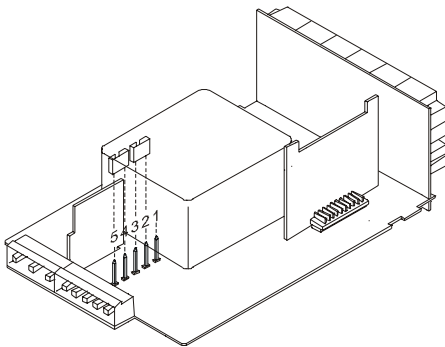

Fig. 9.2. Supply voltage 230 V or 48 V AC
**115/230 V AC:** The instruments with 115/230 V AC power, are shipped from the factory for 230 V AC (USA market 115 V AC), see figure 9.2. To change supply voltage to 115 V AC, set jumpers as indicated in figure 9.3 (see table 1). The wiring label should be modified to match new setups.
**24/48 V AC:** The instruments with 24/48 V AC power supply, are shipped from the factory for 24 V AC, see figure 9.3 To change supply voltage to 48 V AC, set jumpers as indicated in figure 9.2 (see table 1). The wiring label should be modified to match new setups.